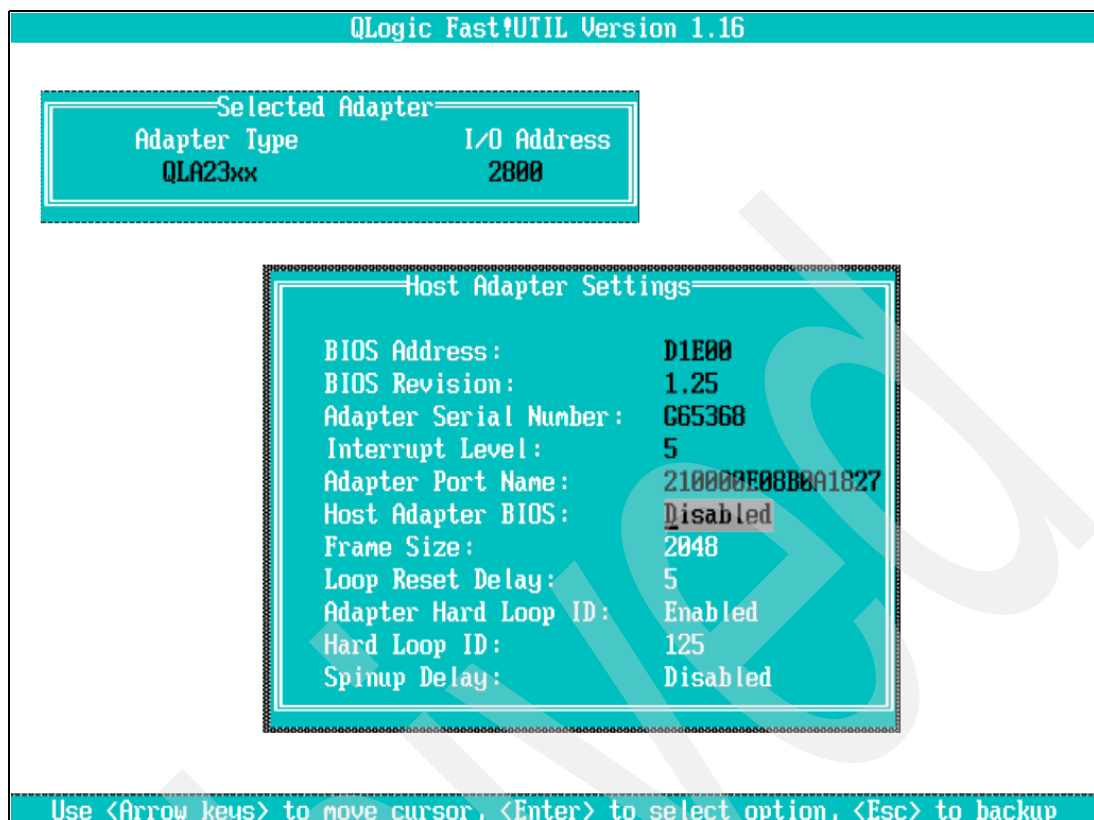

Figure 27-6 Second FC HBA port WWN
- Select **Configuration Settings** → **Adapter Settings** and look for the WWN of the second HBA adapter. As you can see in Figure 27-6 on page 677, the WWN is 21:01:00:E0:8B:0A:18:27.